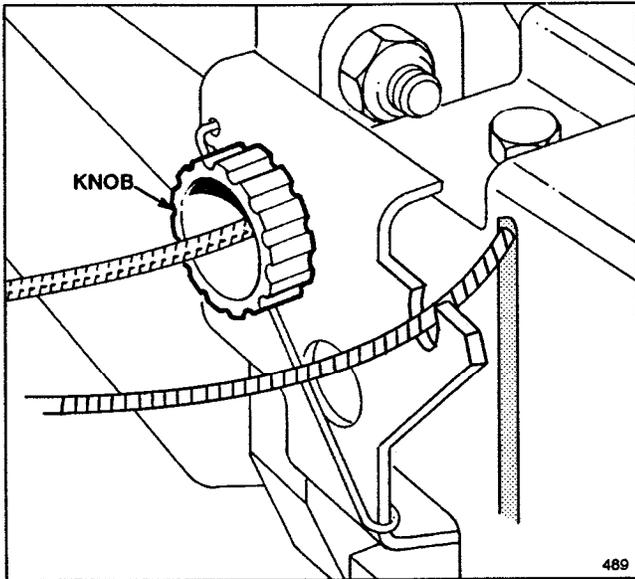

Figure 24
If mower does not self-propel or has a tendency to creep forward when drive is not engaged, adjust wheel drive control knob on rear of gear box (Fig. 24).
3. To adjust wheel drive cable, rotate knob clockwise to increase distance between control bar and handle. Turn knob counterclockwise to decrease distance between control bar and handle (Fig. 24).